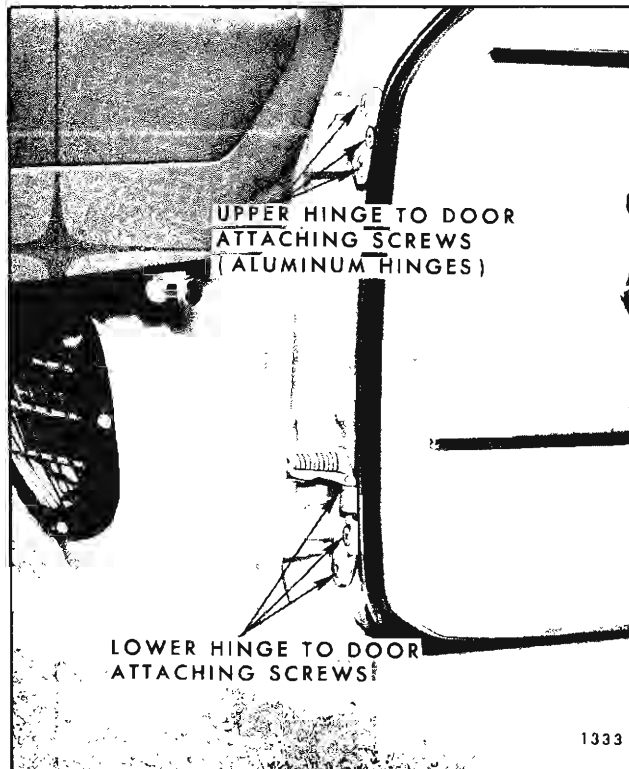

Fig. 2D17—Front Door Hinge Attachment
**NOTE:** Tool J-21550 is designed for adjustment of front door hinge to body attaching bolts (See Fig. 2D19).